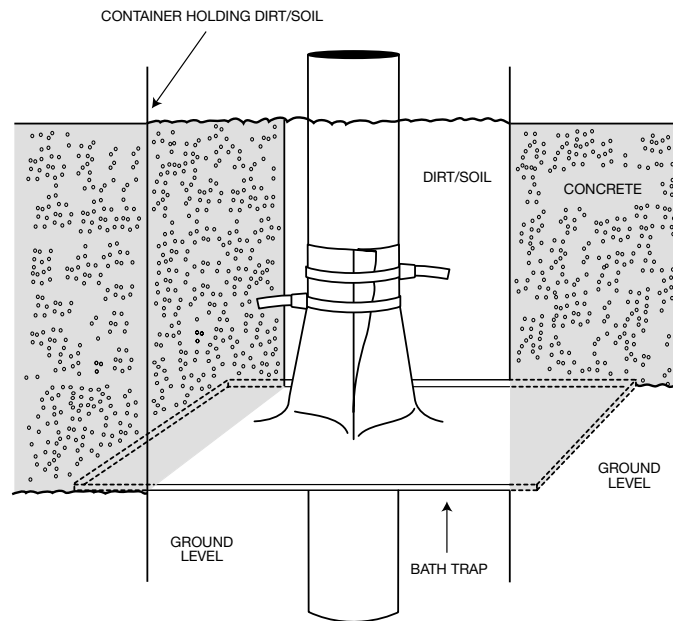

Figure 10
STEP 4. Replace the container and fill it with soil. Take care that the top of the conical section is below the top of the soil (see Figure 10).